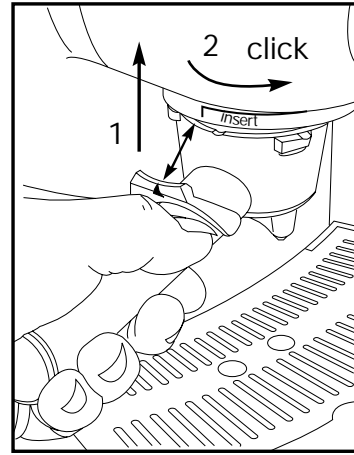

fig. 3
- h. Insert porta filter into filter holder by lining up arrow on thumb guard with INSERT line (fig. 3) Make sure the thumb guard is pulled back towards the handle.